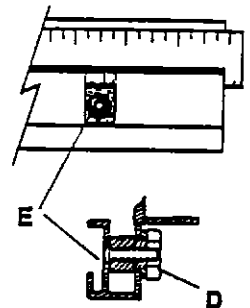

Figure 25
**NOTE:** One end of each squaring edge bar is fixed in position by its **PIVOT SCREW** near the cutting line. Each of the bars can be raised or lowered slightly by rotating them around their **PIVOT SCREW**. This is done by turning **ECCENTRIC NUTS (D)**, Figure 25, one in the **RIGHT SQUARING EDGE BAR** and two in the left. The **LEFT SQUARING EDGE BAR** is very long, so two **ECCENTRICS** are provided to assure the **SQUARING EDGE BAR** can be adjusted straight.
8. Adjust the **ECCENTRIC NUT** in the **RIGHT SQUARING EDGE BAR** to make it line up perfectly with the **LEFT SQUARING EDGE BAR**. Each time you use the **ECCENTRIC NUT**, hold it from moving while tightening the button head screw (E).